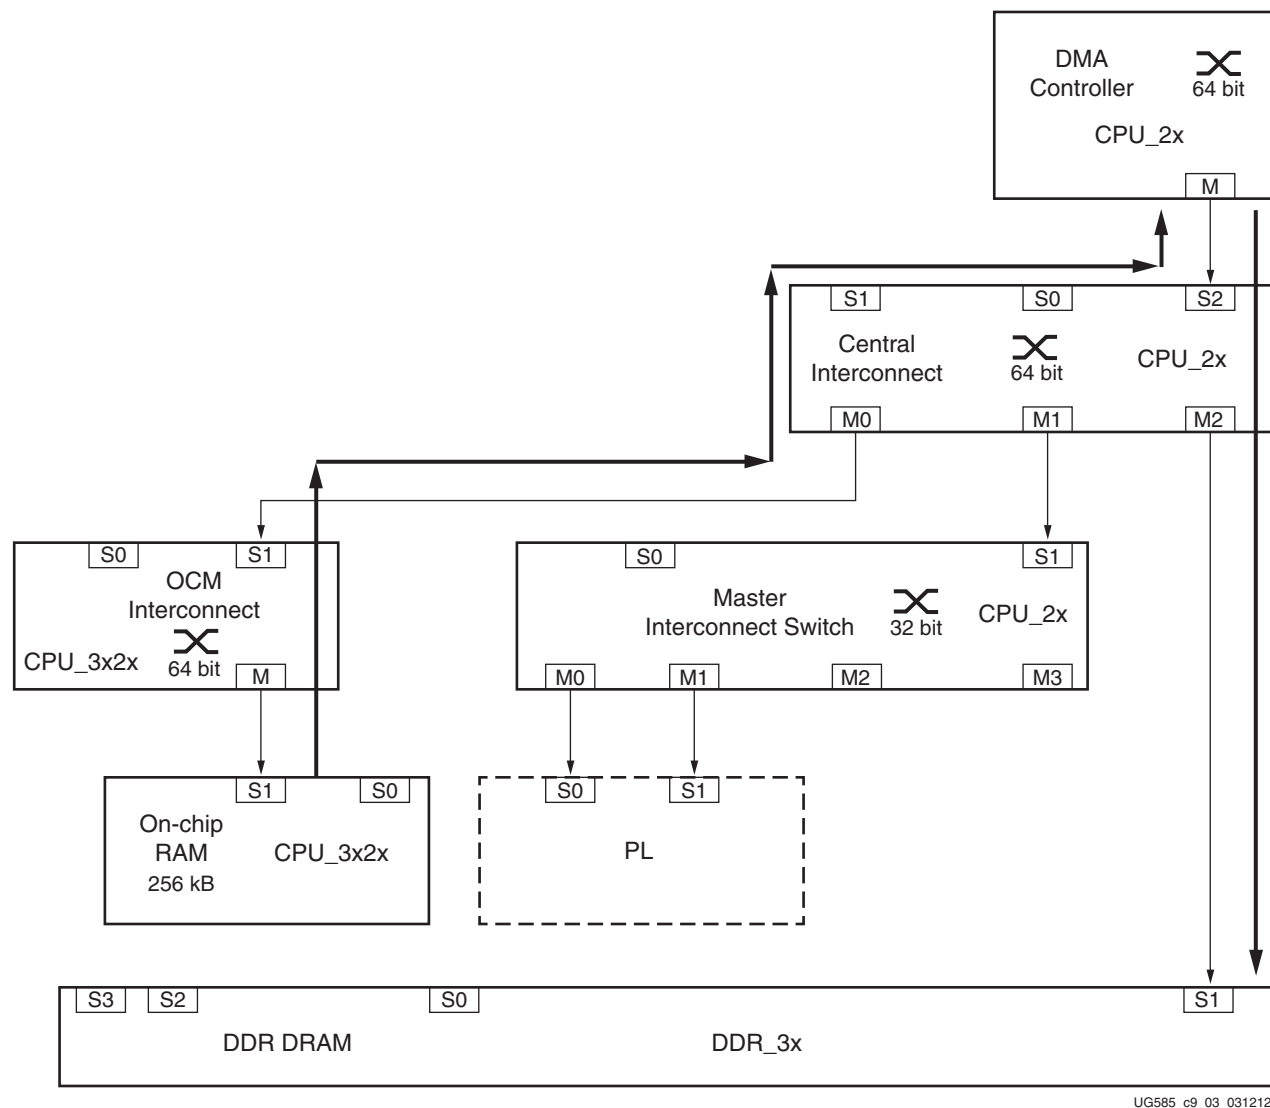

Figure 9-3: Example of Data Flow During an OCM to DDR Transfer
- Memory to memory transaction. The only interface involved is the AXI interface. An example of dataflow from OCM to DDR is shown in Figure 9-3.